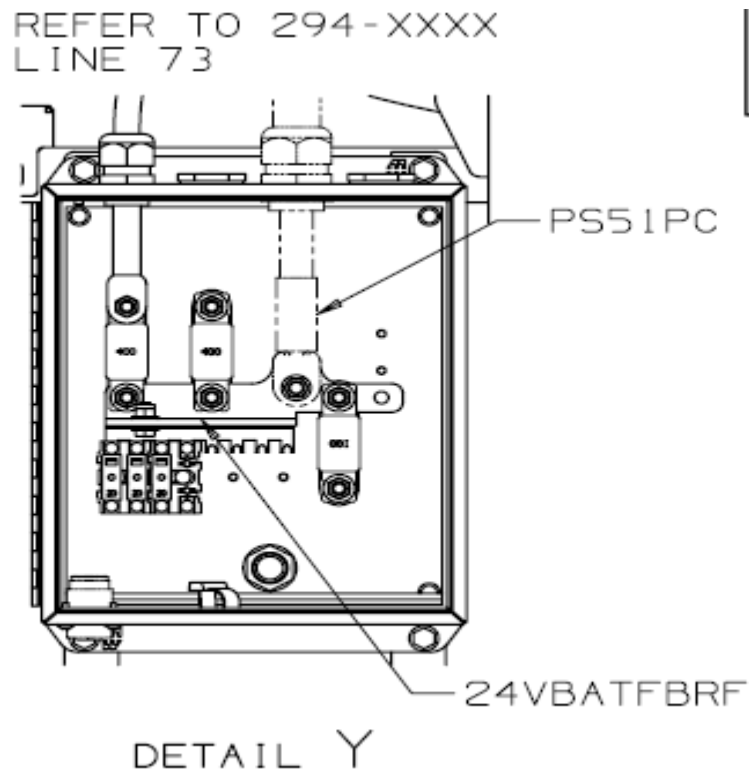

Figure 15: DC/DC Converter Rack Fuse Box
59. Remove Fuse Box cover shown in Figure 15.